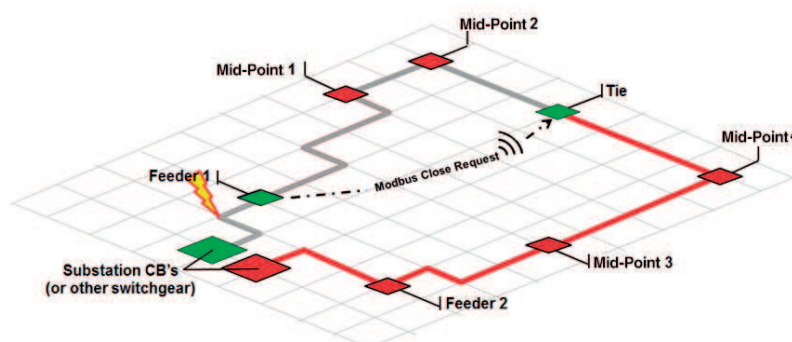

Figure 61. Fault between Substation CB and Feeder 1 Device with Message Tie Control
In the configuration shown below in Figure 61, a permanent fault condition occurs on the section of feeder between the substation CB and the Feeder 1 Device.
- when the Feeder Device timer expires it trips and goes to lockout, and then sends a close request to the Tie Device using Modbus P2P communications as shown in Figure 61